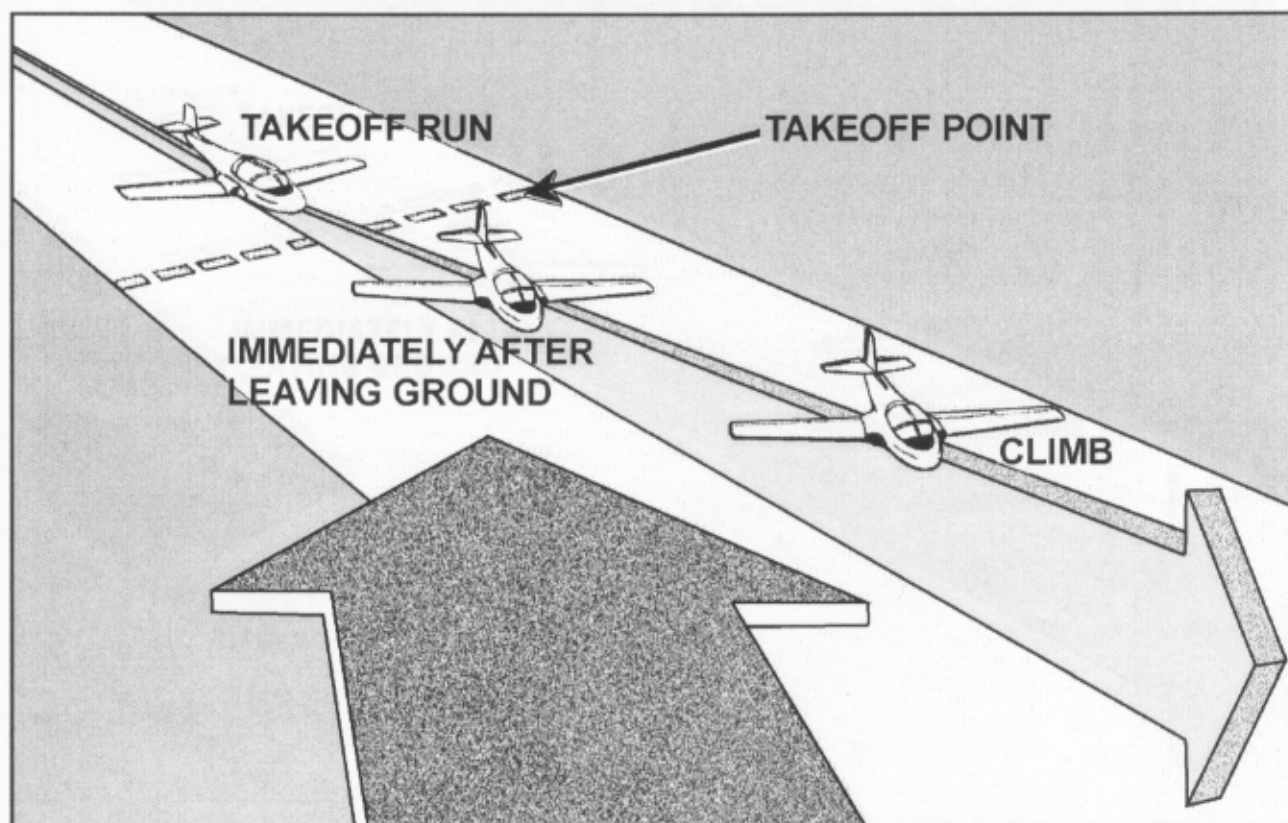

Figure 4.2. Crabbing Into Crosswind After Takeoff.
4.4.2. Leaving the Ground (Crosswind). As the wheels leave the runway, the aircraft will start drifting with the wind. Relax the rudder pressure, allow the aircraft to turn into the wind until an adequate crab is established, and then neutralize the crosswind aileron. Continue to climb in the crab to maintain runway alignment on the takeoff leg (figure 4.2). The remainder of the takeoff climb is the same as previously explained (paragraph 4.3.3).